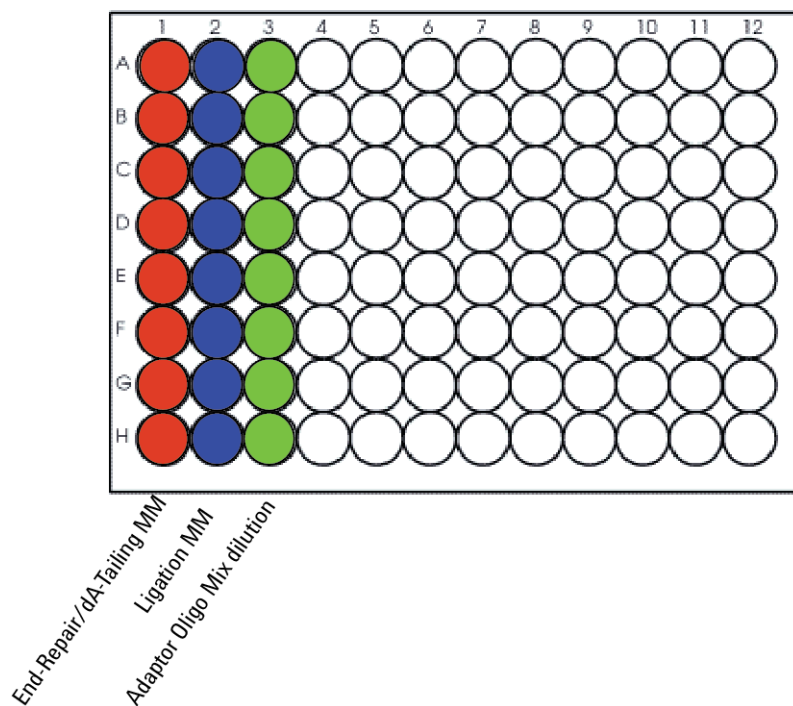

Figure 3 Configuration of the master mix source plate for **01 LibraryPrep_XT_LI_ILM**
- 7 In a Nunc DeepWell plate, prepare the master mix source plate containing the mixtures prepared in step 4 through step 6. Add the volumes indicated in Table 19 of each mixture to all wells of the indicated column of the Nunc DeepWell plate. Keep the master mixes on ice during the aliquoting steps. The final configuration of the master mix source plate is shown in Figure 3.